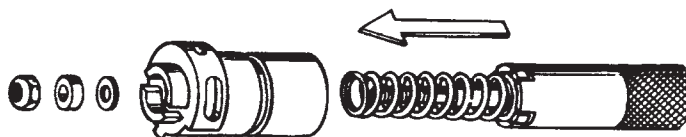

Figure 3
- a) Insert a new low pressure seat (item 8) into the poppet (item 9)
- b) Place the spring (item 10) onto the poppet and holding it with the poppet wrench, G1100-05, insert it into the insert (item 13).
- d) Place the washer (item 14), radiused side out, then the spacer (item 16), and a new locknut (item 17) onto the poppet stem. *Figure 3.* Tighten the locknut only until the first threads are engaged.